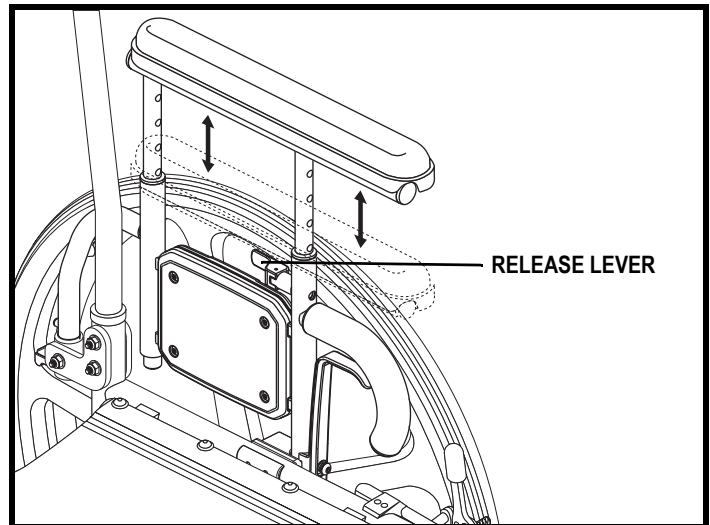

Figure 38. Dual-post Armrest Height Adjustment
1. Rotate the release lever that is located on the armrest in either direction. See **figure 38**.